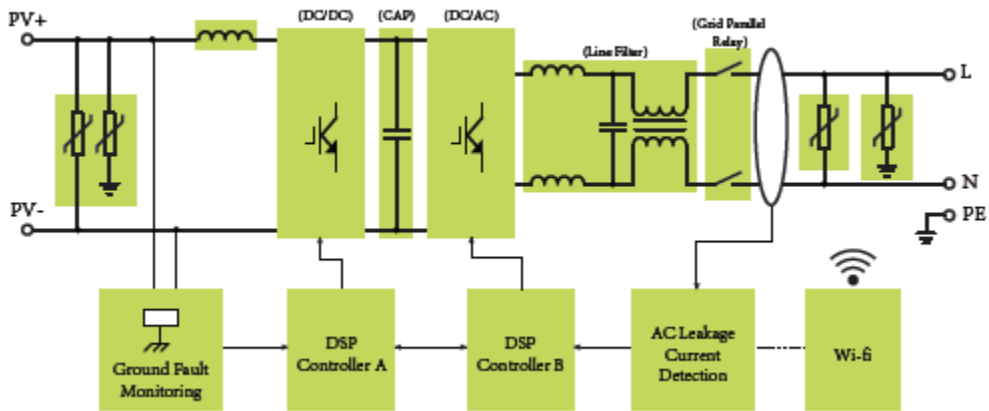

Figure 2 Electrical Block Diagram
3.2.1 Electrical block diagram, please see figure 2.